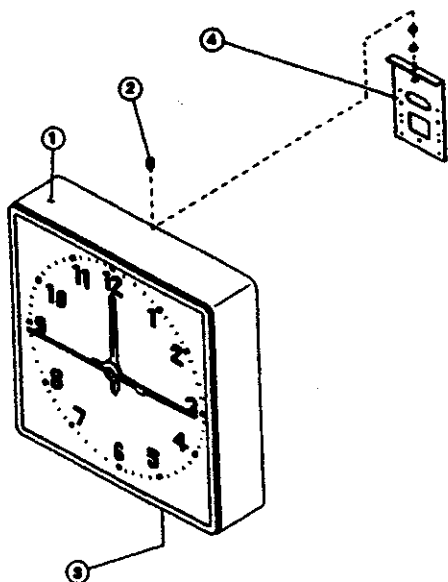

Figure 3: Surface Mount Installation
2. Reinstall power cord through snap bushing (Fig. 3, #3) and reconnect to motor.
4. Secure hanger plate (Fig. 3, #4) to wall. Adjust hanger plate jam nuts to desired height and hang clock as illustrated in Fig. 3. Install and tighten captive nut (Fig. 3, #2).